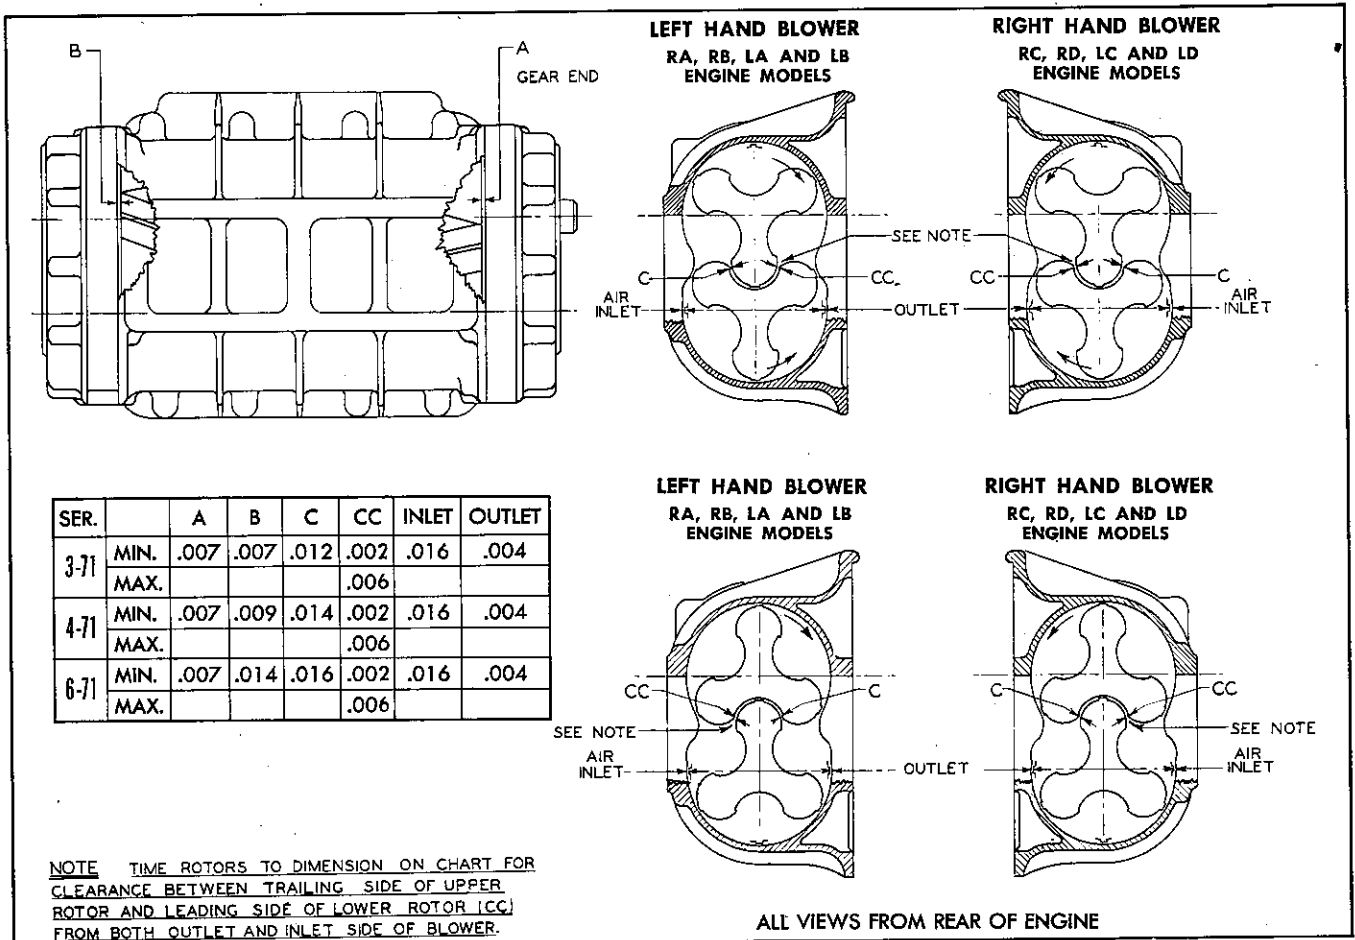

Fig. 17—Diagram of Blower Clearances.
7. As will be seen from Fig. 17, the rotors must revolve inside the blower housing with a specified clearance between the housing and rotor lobes. Inspect the inside of the housing to see that the surfaces are smooth, also the rotor lobes to see that lobes do not contact. Follow the clearances shown in the above chart when assembling blower.
**Check Rotor End Clearance**—Insert feelers between end of rotors and end plates. Determine minimum distance. This operation must be performed at the ends of each lobe, making 12 measurements in all. (See Fig. 17 for permissible dimensions.)